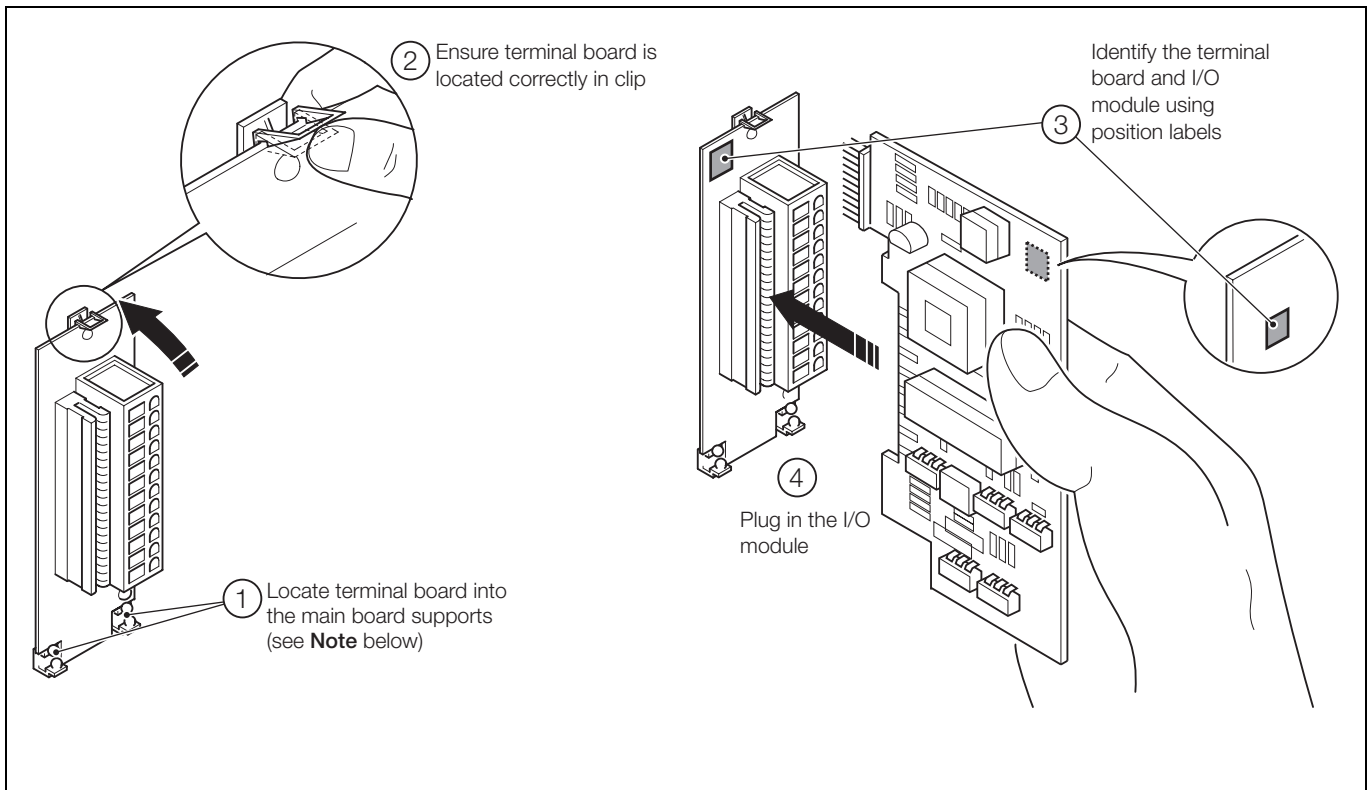

Fig. 3.6 Fitting a Module Board
14. Fit the Analog I/O or Analog Input + Relay module as shown in Fig. 3.6 on page 6.
9. Fit the Analog I/O module (C1300 only), Digital I/O, MODBUS or Relay module as shown in Fig. 3.6 on page 6.